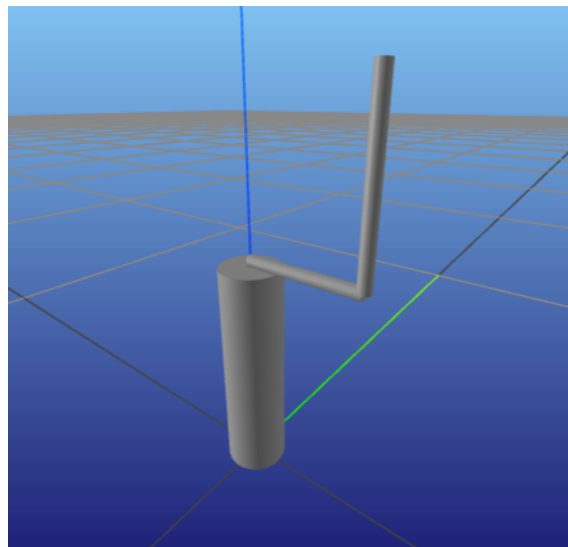

Figure 1
The goal of this project is to control a Furuta pendulum so that it can swing up and balance in the upright position, as shown in Figure 1. For this task, you will implement and compare two different approaches: (1) an optimization-based motion planning approach and (2) a reinforcement learning (RL) approach.
1. A basic simulation environment for the Furuta pendulum, as seen in Figure 1.